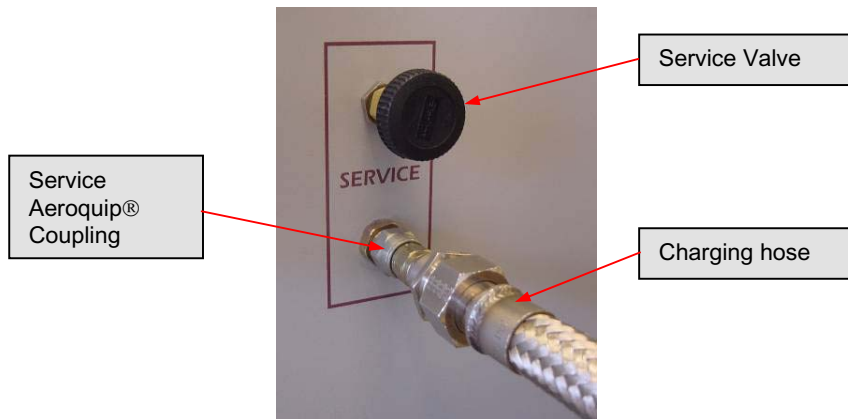

Figure 8-4: Service valve and access port
- 1) Make sure the service valve is closed. See Figure 8-4.